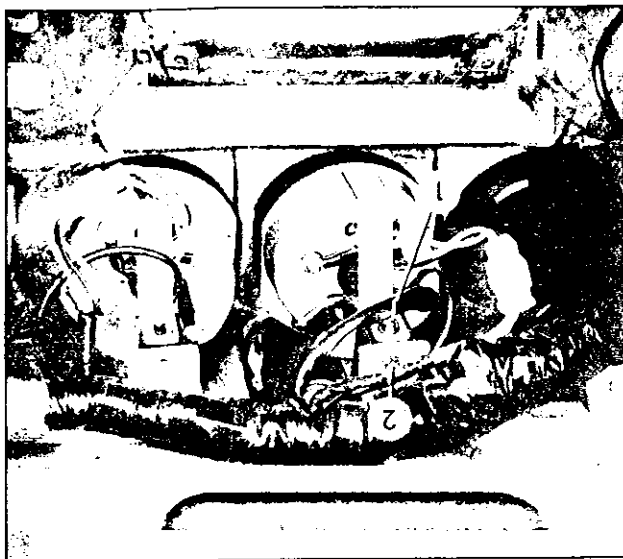

Fig. BE-23 Removing ammeter and fuel gauge
Remove the ammeter and fuel gauge unit in the same manner as for the oil pressure gauge and water temperature gauge. To be more specifically, when removing the ammeter and fuel gauge unit, remove the meter bracket, and remove hexagonal cross-headed screws [① and ② in Figure BE-23] from reverse side of the meter.